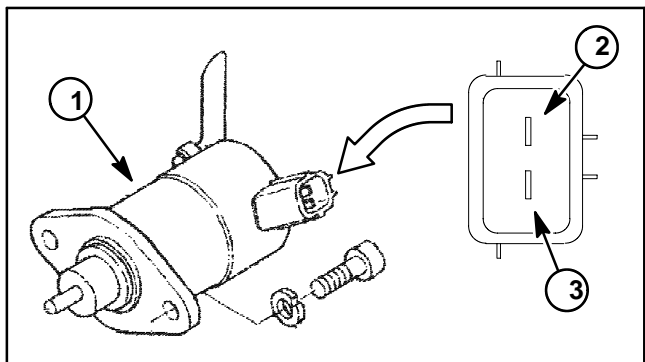

Figure 59
4. Using a digital multimeter (ohms setting), touch one test lead to the pull coil terminal and the other test lead to the fuel stop solenoid frame (ground) (Fig. 59). The resistance of the pull coil should be less than 1 ohm (but not zero).
5. Using a digital multimeter (ohms setting), touch one test lead to the hold coil terminal and the other test lead to the fuel stop solenoid frame (ground) (Fig. 59). The resistance of the hold coil should be approximately 15 ohms.